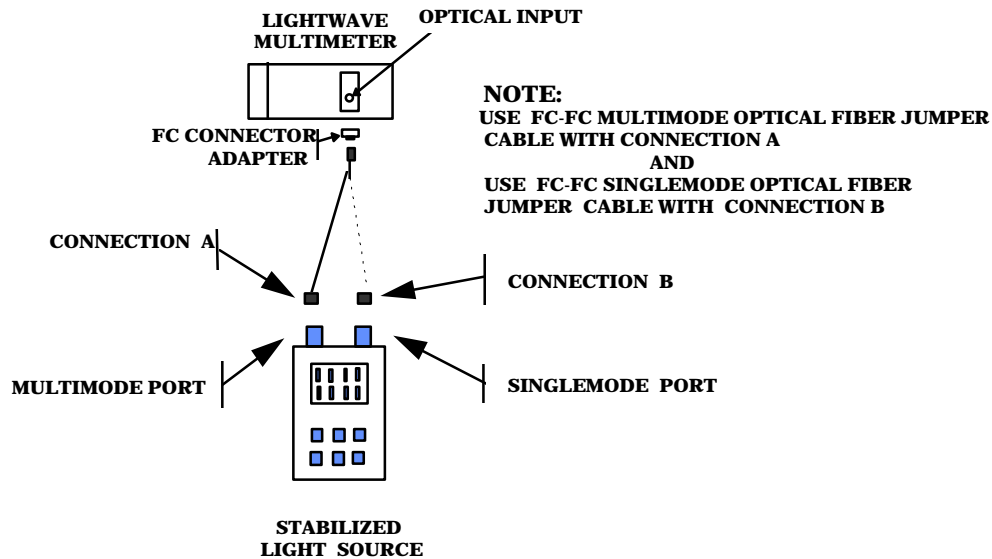
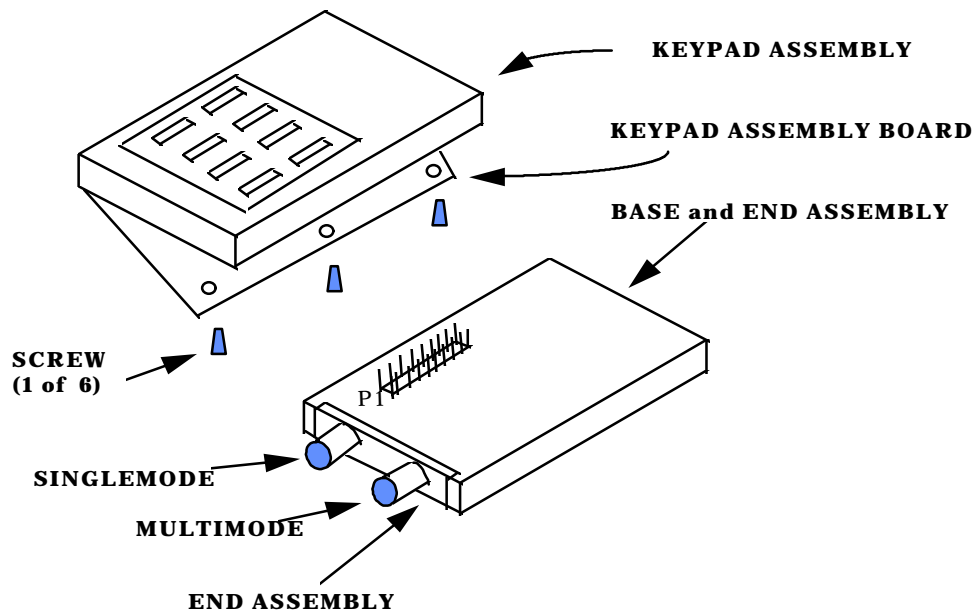
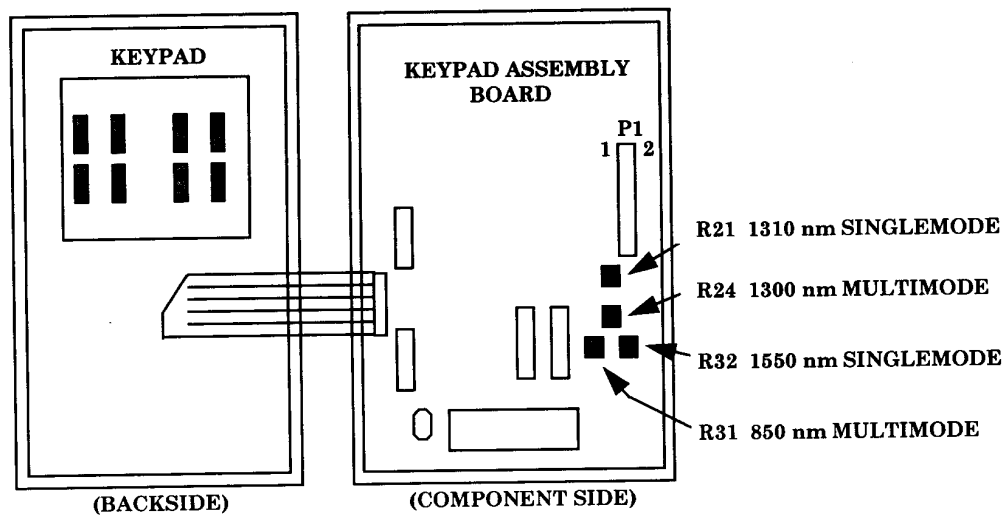

Figure 4. SLS test setup.
Figure 5. SLS keypad assembly, base and end assembly separation.
Figure 6. Keypad and keypad assembly board – adjustment locations.
- (1) Remove SLS from rubberized case and record actual output wavelengths as indicated by manufacturer label located on back of case.
- (2) Connect SLS to LIGHTWAVE MULTIMETER as shown in figure 4, CONNECTION A.
- (4) Set lightwave multimeter to measure dBm at actual output wavelength recorded in paragraph **9a**(1) for 850 nm.
- (5) Press **MULTIMODE 850/1300** pushbutton. **MULTIMODE 850 nm** annunciator will illuminate.
- (6) Lightwave multimeter will indicate between -22.50 and -17.50 dBm; if not, perform **b**(1) through (11), and (19) through (24) below.
- (7) Set lightwave multimeter to measure dBm at actual output wavelength recorded in paragraph **9a**(1) for 1300 nm.
- (8) Press **MULTIMODE 850/1300** pushbutton. **MULTIMODE 1300 nm** annunciator will illuminate.
- (9) Lightwave multimeter will indicate between -22.50 and -17.50 dBm; if not, perform **b**(1) through (9), (12), (13), and (19) through (24) below.
- (10) Press **MULTIMODE 850/1300** pushbutton (all annunciators except **SUPPLY NiCd** will extinguish).
- (11) Connect equipment as shown in figure 4 CONNECTION B.
- (12) Set lightwave multimeter to measure dBm at actual output wavelength recorded in paragraph **9a**(1) for 1310 nm.
- (13) Press **SINGLEMODE 1310/1550** pushbutton. **SINGLEMODE 1310 nm** annunciator will illuminate.
- (14) Lightwave multimeter will indicate between -28.50 and -23.50 dBm; if not, perform steps **b**(1) through (8), (14), (15), (16), and (19) through (24) below.
- (15) Set lightwave multimeter to measure dBm at actual output wavelength recorded in paragraph **9a**(1) for 1550 nm.
(16) Press **SINGLEMODE 1310/1550** pushbutton. **SINGLEMODE 1550 nm** annunciator will illuminate.
(17) Lightwave multimeter will indicate between -28.50 and -23.50 dBm; if not, perform **b**(1) through (7), (14), (9), and (17) through (24) below.
- (1) Ensure SLS power is **OFF**.
- (2) Remove six screws from back of SLS case.
- (3) Turn SLS face up.
- (4) Carefully separate **KEYPAD ASSEMBLY** from **BASE** and **END ASSEMBLY** (fig. 5).
(5) Place **KEYPAD ASSEMBLY** face down and remove six screws from back of **KEYPAD ASSEMBLY BOARD** (fig. 5).
(6) Carefully reconnect KEYPAD ASSEMBLY BOARD to BASE and END ASSEMBLY (fig. 5). Ensure P1 pins are straight before connecting KEYPAD ASSEMBLY BOARD (fig. 5).
(7) Carefully lift keypad from KEYPAD ASSEMBLY BOARD (fig. 5) to gain access to adjustments.
(8) Ensure SLS is connected to LIGHTWAVE MULTIMETER as shown in figure 4 CONNECTION A
(9) Press **ON/OFF** pushbutton to **ON**.
(10) Press **MULTIMODE 850 nm/1300 nm** pushbutton for output of 850 nm.
(11) Adjust R31 850 nm MULTIMODE for -20.00 dBm indication on lightwave multimeter (fig. 6) (R).
(12) Press **MULTIMODE 850 nm/1300 nm** pushbutton as necessary for 1300 nm output.
(13) Adjust R24 1300 nm MULTIMODE (fig. 6) for -20.00 dBm indication on lightwave multimeter (R).
(14) Ensure SLS is connected to LIGHTWAVE MULTIMETER as shown in figure 4, CONNECTION B.